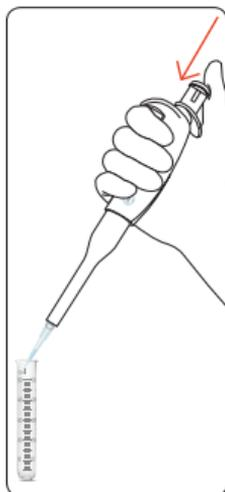

Figure 8. Dispensing Angle
3. Dispense: Place the pipette tip at an angle (10° to 45°) against the inside wall of the receiving vessel. Depress the push button smoothly to the First Stop. (figure 8)
3. Dispense: Place the pipette tip at an angle (10° to 45°) against the inside wall of the receiving vessel. Depress the push button smoothly to the First Stop. Wait one second. (figure 8)